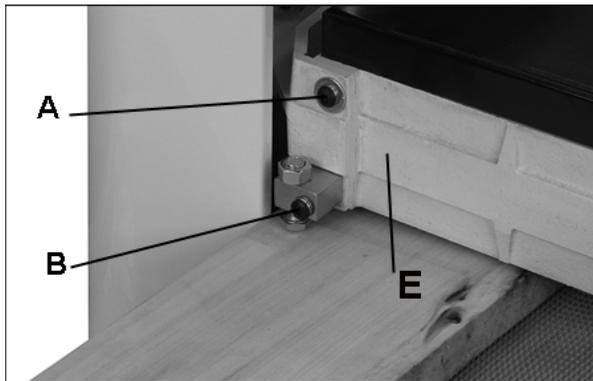
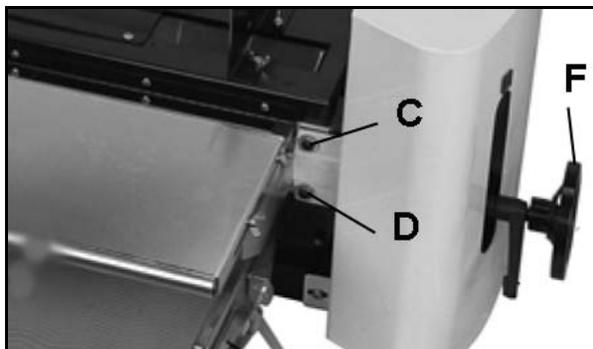

Figure 17
Figure 18
4. With dust cover open, lower drum while slowly rotating it by hand, until front drum lightly contacts gauge. Raise or lower the rear drum to a same height as the front drum by rotating the rear drum height adjustment handwheel (F, Figure 18) clockwise to raise it or counter-clockwise to lower it.
7. To align front drum, loosen the four socket head button screws (A,B,C,D as shown in Figure 17 and Figure 18) at front and rear of outboard support bracket (left of the machine). Note: Do not loosen any socket head button screws at the inboard (right) side.
8. Finely raise or push down the outboard (left) side of the drum carriage (E, Figure 17) to achieve parallel alignment of the front drum. The distance between the conveyor table and both sides of the front drum should be the same.